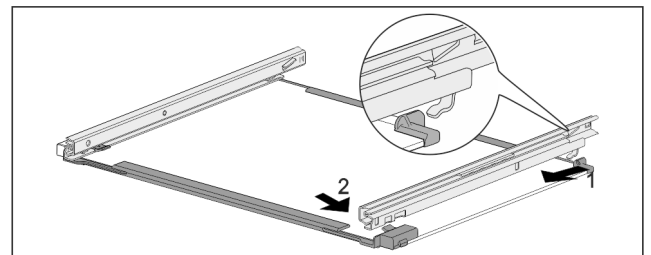

Fig. 234 Glass shelf with rails
- ▶ Hook in rail at the back. Fig. 234 (1)
- ▶ Hook in rail at the front. Fig. 234 (2)